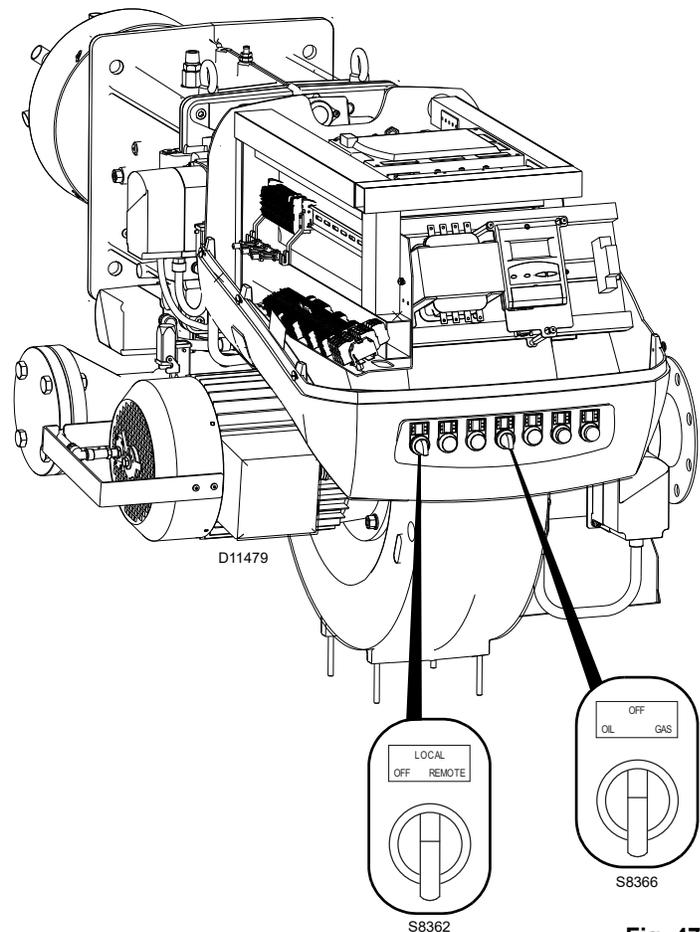

Fig. 47
Turn the switch to position "LOCAL" and turn the switch to position "OIL" for oil operation and "GAS" for gas operation (Fig. 47).
When the burner starts, check the direction of the motor rotation, as indicated in Fig. 47.
- place the switch of Fig. 47 in position "OFF" and wait for the control box to carry out the switch-off phase;